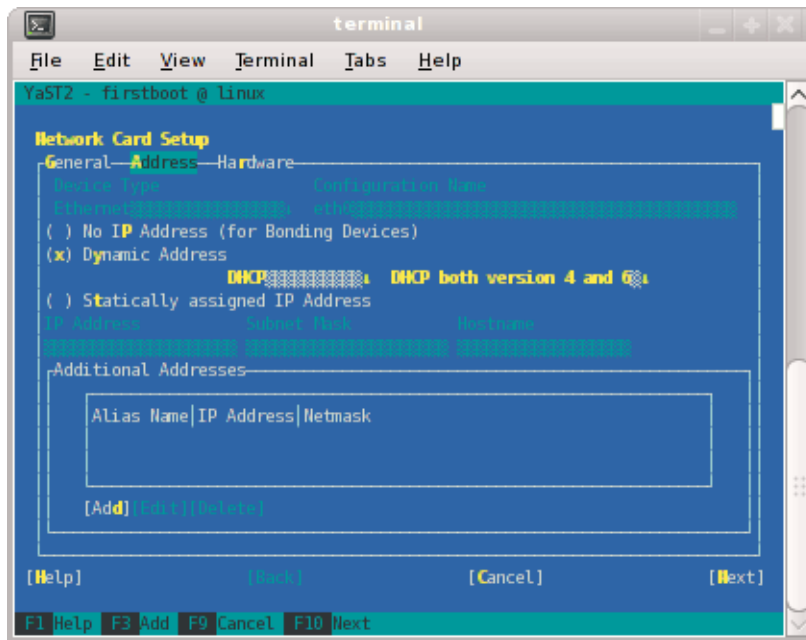

Figure 2-13 Network Card Setup Screen
6. The **Network Card Setup** screen appears, as shown in Figure 2-13 on page 50. SGI suggests using static IP addresses and not DHCP for admin nodes. Select **Statically assigned IP Address**. Once selected, you can enter the IP Address, Subnet Mask, and Hostname. These are the settings for your admin node's house/public network interface. You will enter the default route, if needed, in a different step. Select **Next** to continue.